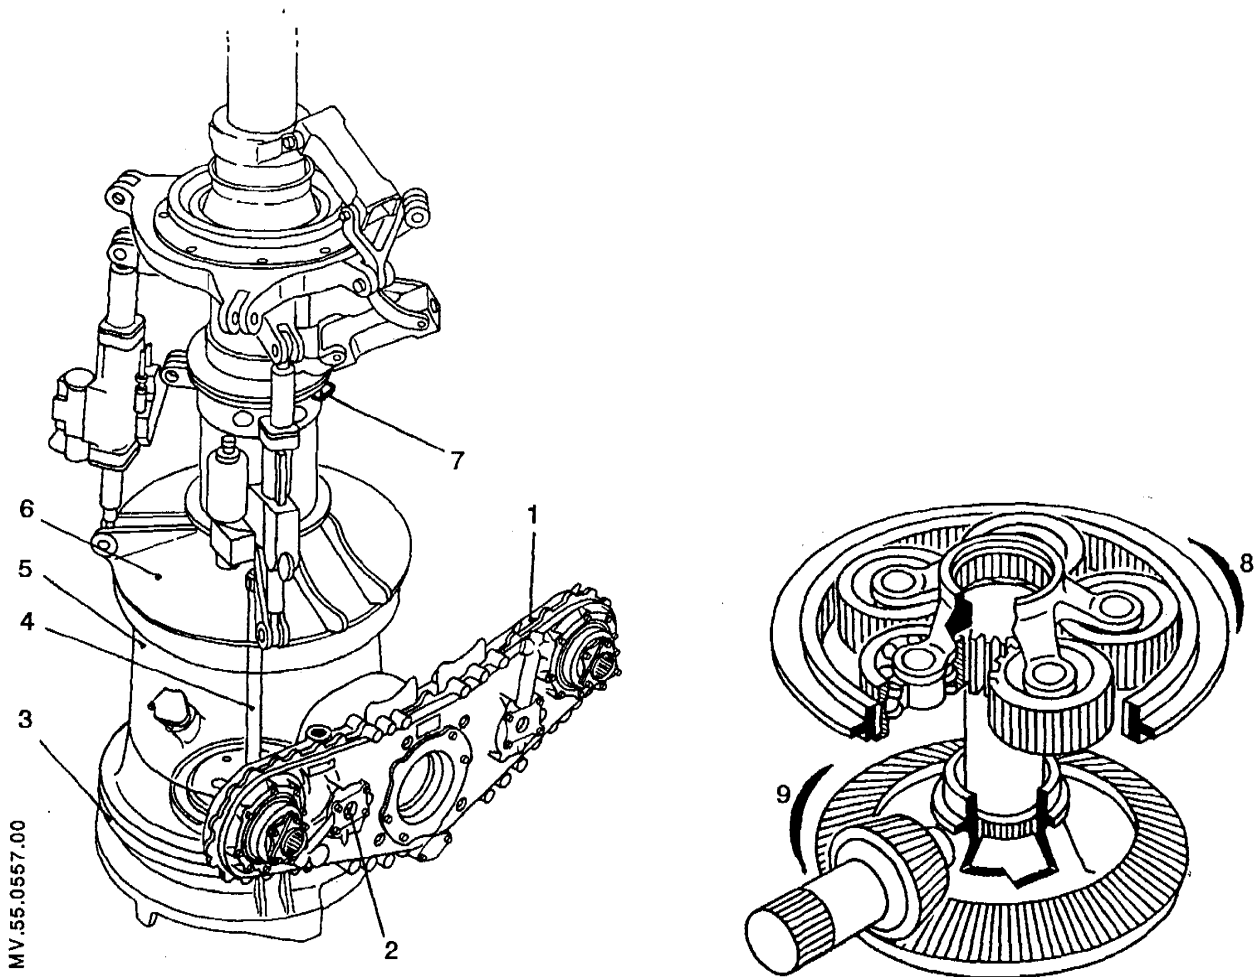

Figure 2
2.2 Main gearbox (M.G.B.) (Figure 2)